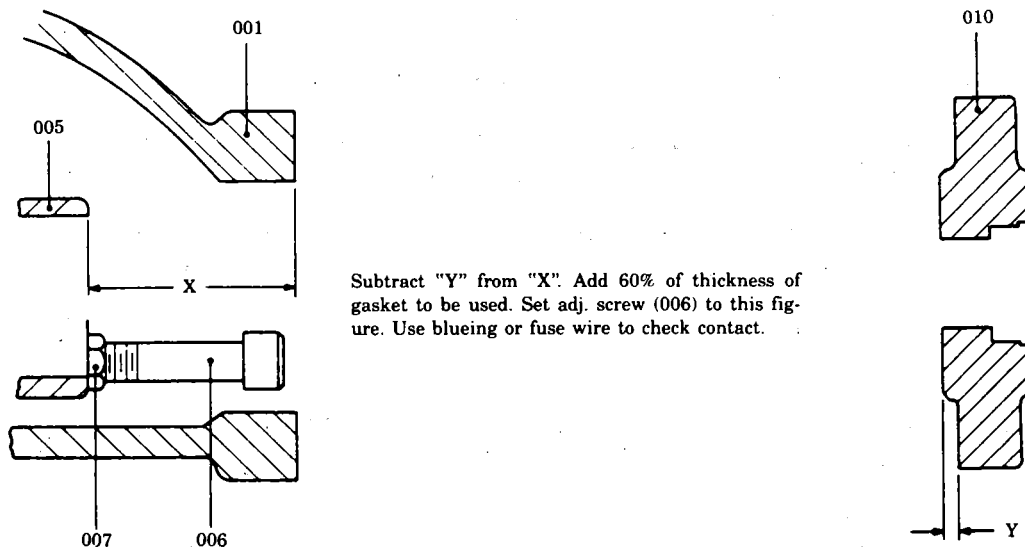

FIGURE 5. SETTING OF HOUSING ADJUSTING CAPSCREWS
STEP 2. Place blueing on capscrews (006) in housings (005). Install gaskets (013) and covers (010) on both ends of pump case (001) with bolts (002). Torque bolts (002) to 75 lbs. ft. (± 5 lbs. ft.). Adjust capscrews (006) on ends of both housings as outlined in Figure 5. Correct adjustment should be verified for clamped end of pump before adjusting capscrews on unclamped end. Remove cover (010) to check for contact and adjust capscrews (006) as necessary. Lock tight nuts (007). When capscrews (006) are properly adjusted on clamped end of pump, make sure housings are snugly against clamped end cover (010) and adjust capscrews (006) on unclamped end of pump as necessary. Ensure nuts (007) are locked tight when adjustment is complete. Remove cover (010) and gasket (013) from both ends of pump.